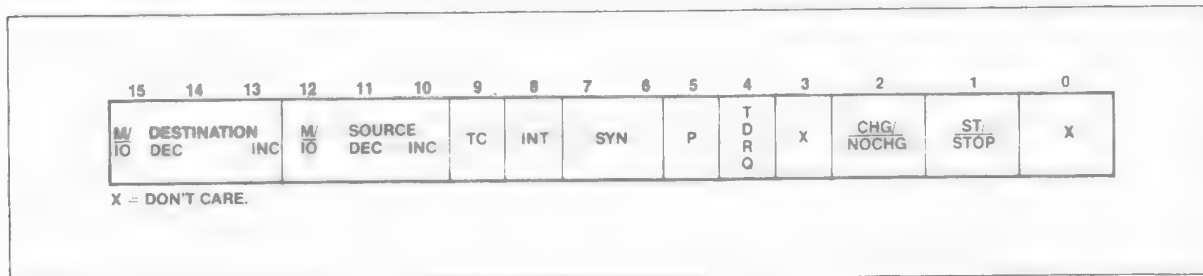

Figure 18. DMA Control Register
Each channel has six registers in the control block which define each channel's specific operation. The control registers consist of a 20-bit Source pointer (2 words), a 20-bit Destination pointer (2 words), a 16-bit Transfer Counter, and a 16-bit Control Word. The format of the DMA Control Blocks is shown in Table 13. The Transfer Count Register (TC) specifies the number of DMA transfers to be performed. Up to 64K byte transfers can be performed with automatic termination. The Control Word defines the channel's operation (see Figure 18). All registers may be modified or altered during any DMA activity. Any changes made to these registers will be reflected immediately in DMA operation.